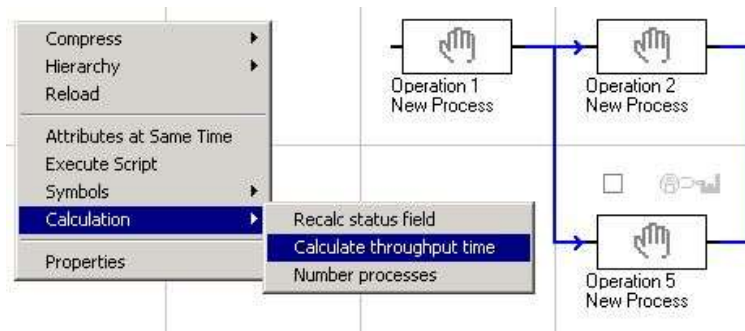

Figure 131: Start throughput Time Calculation – Contextual Menu
- 2) Press the right mouse button and select **Calculate throughput time** from the contextual menu. *Please refer to the Figure 131.*